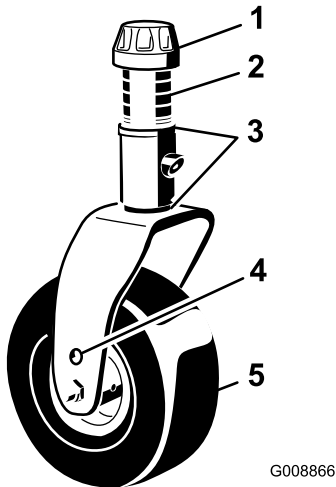

Figure 16
4. Remove the tensioning cap from the spindle shaft and slide the spindle out of the caster arm (Figure 16).